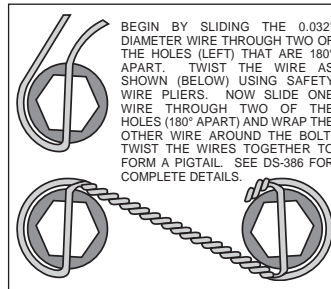

Figure 3. Safety Wire Diagram
- Orient the rotor (5) and the hat (6) as shown in Figure 1 and Photo 2. Attach rotor to hat using bolts (7), washers (8), and t-nuts (9). Follow additional instructions included with the bolt kit. Using an alternating sequence, apply red *Loctite*® 271 to the threads, and torque to 120 **in-lbs**. Safety wire bolts using standard 0.032 inch diameter stainless steel safety wire as shown in Figure 3. Please refer to Wilwood's data sheet DS-386 (available at www.wilwood.com/Pdf/DataSheets/ds386.pdf) for complete safety wire installation instructions.